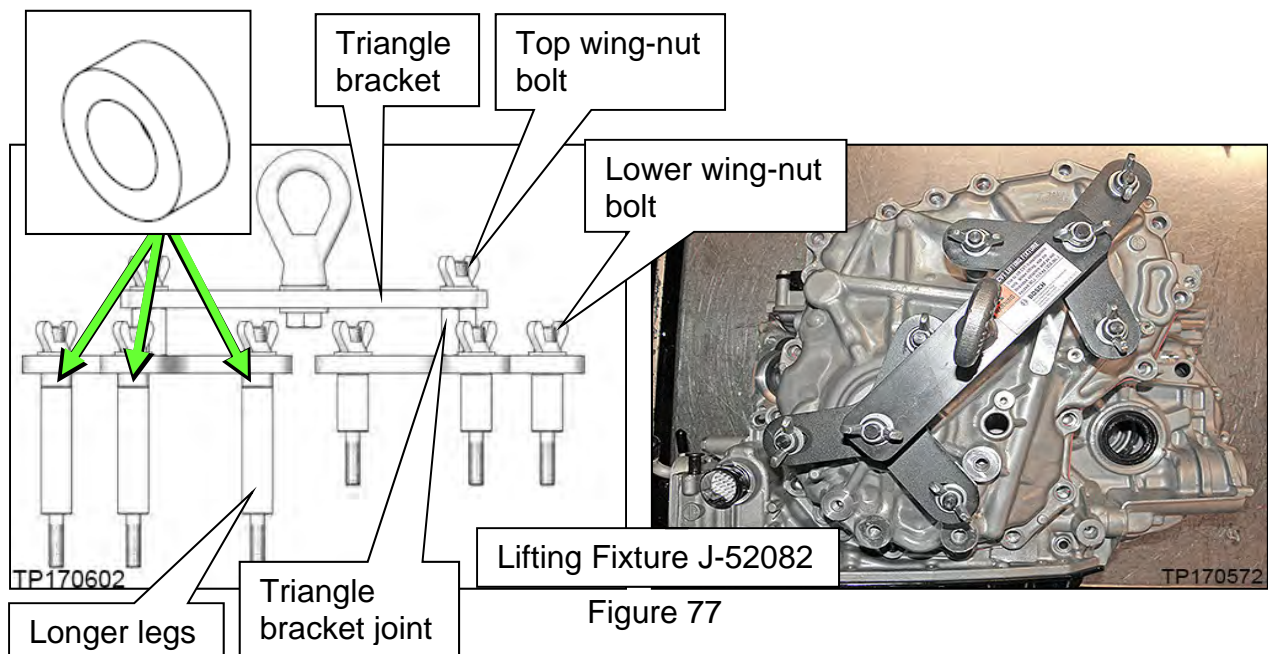

Figure 77
58. Attach universal Lifting Fixture J-52082 with spacers J-52082-2 to the side cover, as shown in Figure 77.
- b. Confirm that three (3) spacers (# J-52082-2) are present between the longer legs and triangle bracket, as shown in Figure 77.